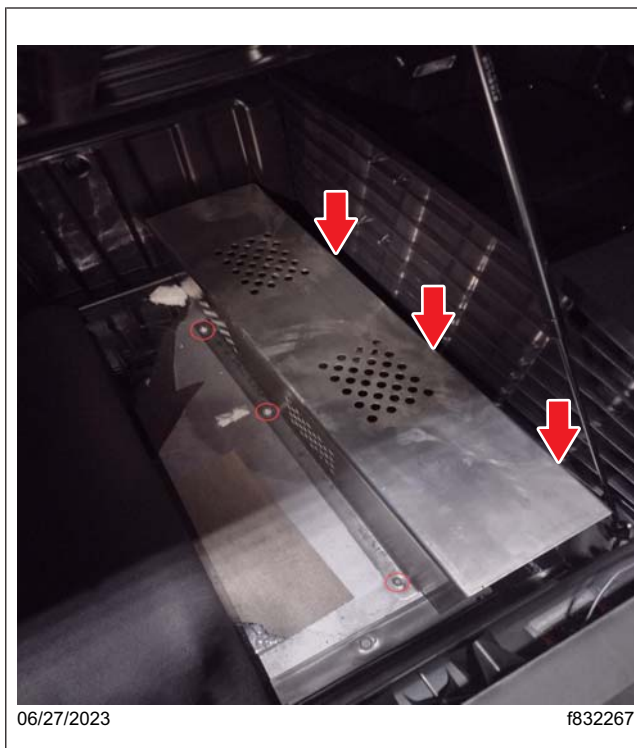
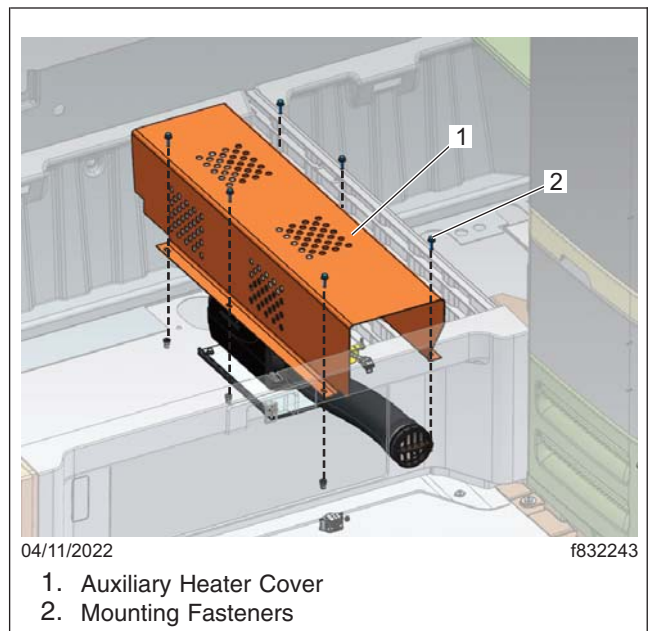

Fig. 1, Location of the Auxiliary Heater Cover Fasteners
Fig. 2, Auxiliary Heater Cover Removal
3. From inside of the sleeper cab and underneath the bunk, remove the six fasteners that attach the auxiliary heater cover to the sleeper floor. Remove the auxiliary heater cover. See Fig. 1 and Fig. 2.